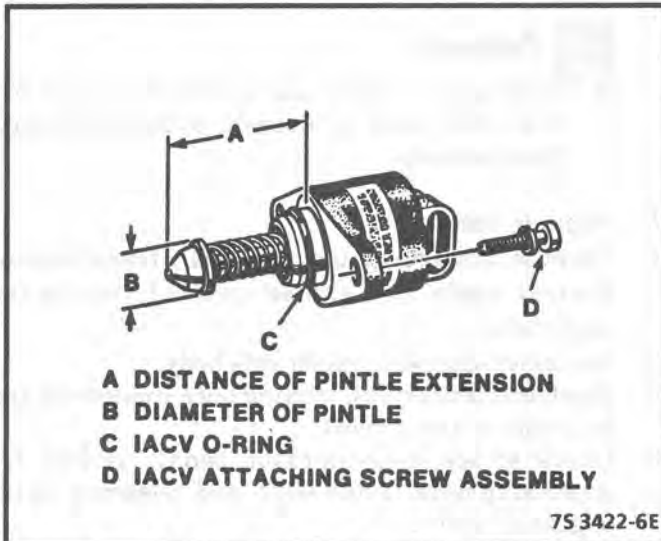

Figure C2-15 - Flange-Mount IAC Valve
Replacement (Figure C2-15)**
On 2.5L engines, the IAC valve is flange-mounted, with a dual taper, 10 mm diameter pintle (see Figure C2-15, dimension "B"). If replacement is necessary, only an IAC valve with the appropriate pintle shape and diameter should be used.
**NOTICE:** Before installing a new IAC valve, measure the distance between the tip of the valve pintle and the flange mounting surface. If dimension "A" distance (see Figure C2-15) is greater than 28mm (1-1/8 in.), it must be reduced to prevent damage to the valve.